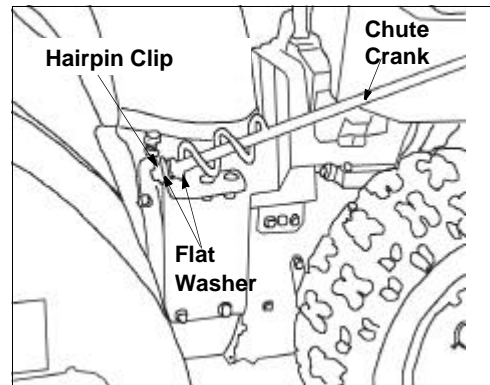

Figure 24
- Disconnect chute crank assembly at the discharge chute by removing the hairpin clip and the two flat washers. See Figure 24.